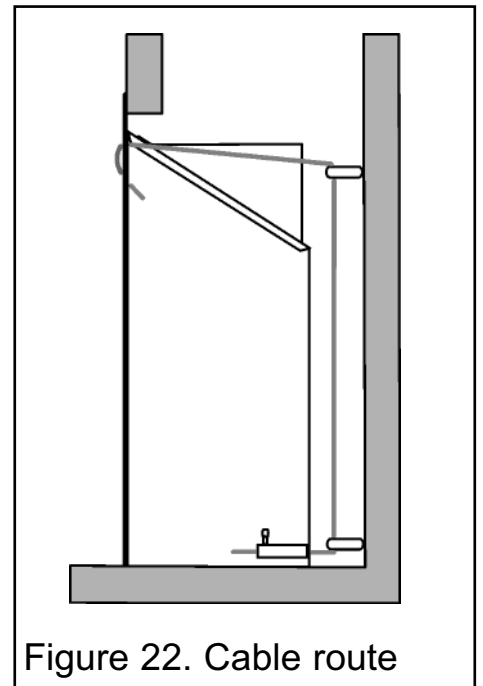

Figure 22. Cable route
**6.** Thread the cables through the eyebolts. Return the cables through the holes near the bottom of the convection box back panel (See figure 22).